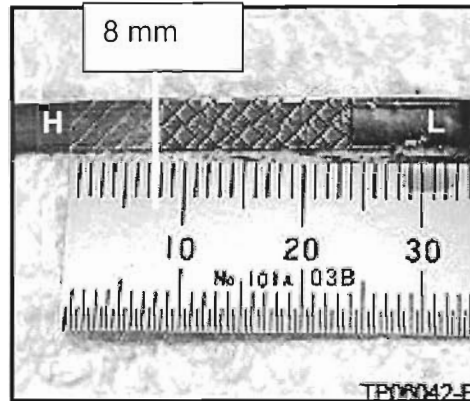

Figure 5
13. **Write down the exact oil level reading using the engine dipstick and ruler (see Figure 5).**
- The example in Figure 5 shows the oil level is 8 mm below the H mark.